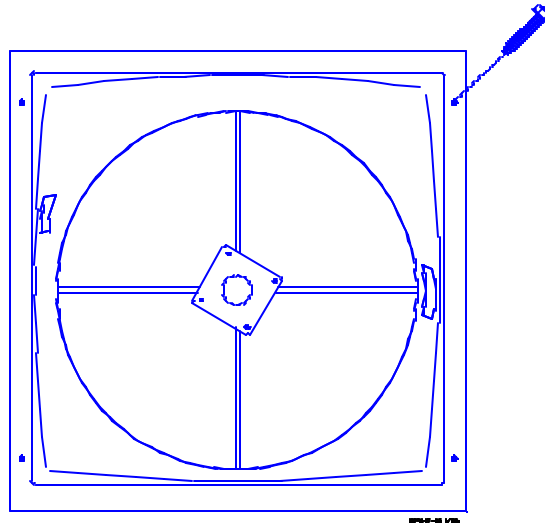

Figure 4. Fan installation (front view).
The Hardware Kit, supplied, includes (8) #10 screws to secure the fan to the framed opening. Install (4) screws at the locations shown in Figure 4.